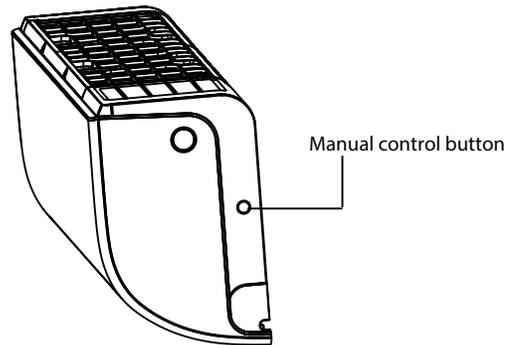

Fig. 34 — Test Operation
Perform a test operation after completing gas leak and electrical safety check (see Fig. 34).
1. The **MANUAL CONTROL** button is located on the right-hand side panel of the unit (see Fig. 34). Press the button two times to select the **COOL** function. Perform a Test Run as normal.